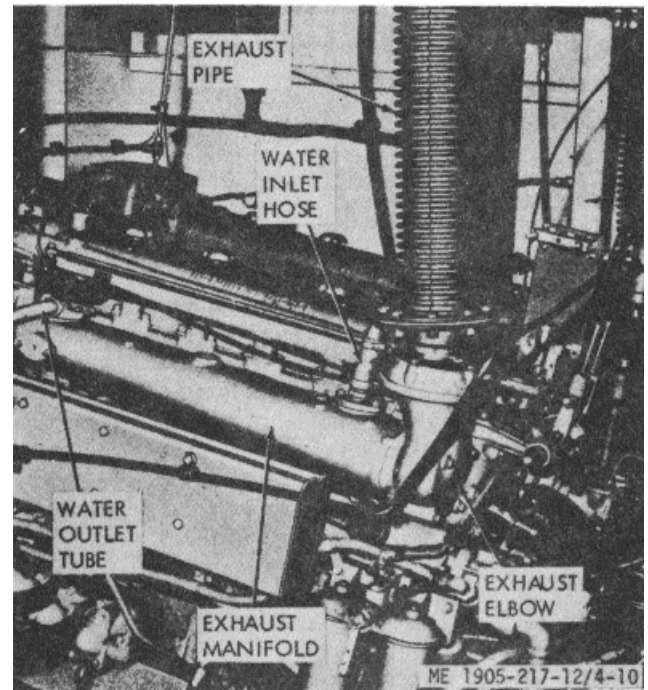

Figure 4-10. Exhaust manifold and pipe removal and installation
#### 4-22. Exhaust Manifold and Pipe (fig. 4-10)
a. *Removal.* Refer to fig. 4-10 and remove the exhaust pipe and manifold.
(1) Clean parts with cleaning solvent FED. SPEC. PD-680 and dry thoroughly.
(2) Inspect the pipe for signs of deterioration and wear.
(3) Inspect the manifolds for leaks, cracks, corrosion, and other damage.
(4) Replace all defective parts as required.
c. *Installation.* Refer to fig. 4-10, position the exhaust pipe and manifold on the engine, and secure with mounting hardware.